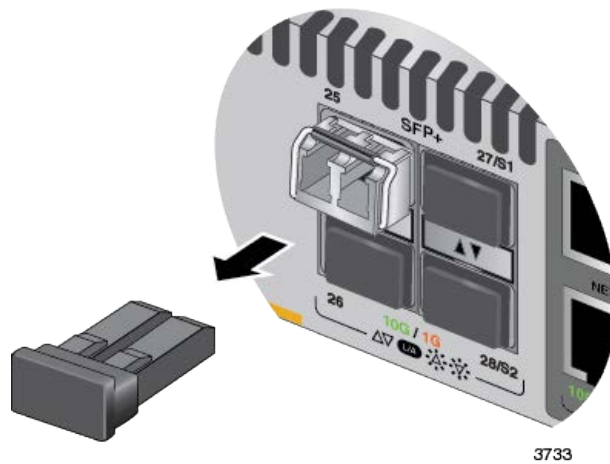

Figure 76. Removing the Dust Cover from an SFP or SFP+ Transceiver
5. Remove the dust cover from the transceiver, as shown in Figure 76.
1. If the SFP+ port has a dust cover, remove it. Refer to Figure 76 on page 146.